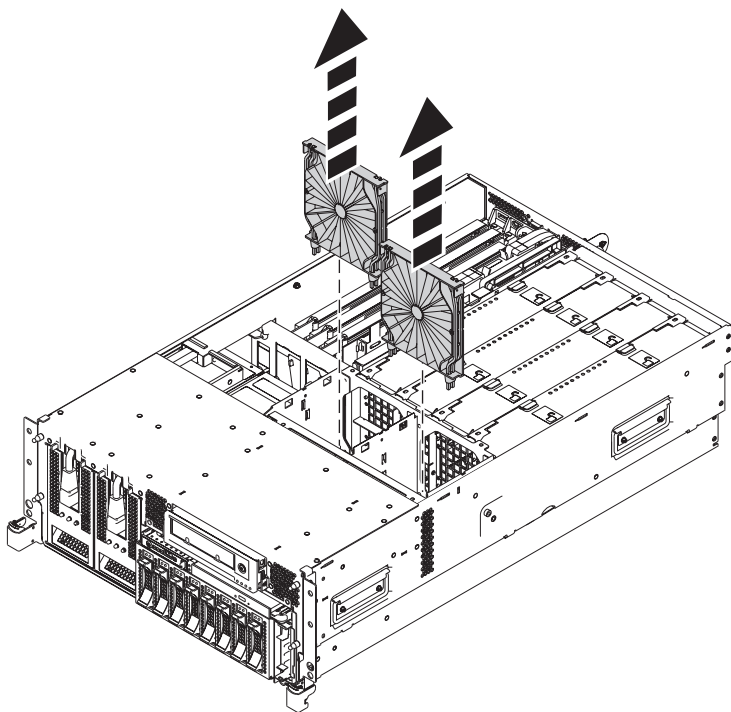

Figure 3. Removing the air baffles from the fan cage
- b. To remove the air baffles, grasp and pull the air baffle out of the fan cage, as shown in Figure 3.